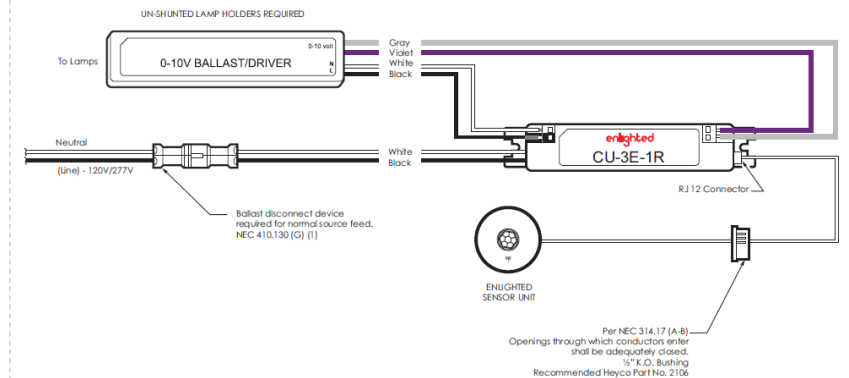

Figure 5
Step 2: Mount the Control Unit (CU) in a UL approved enclosure. Refer to the *Control Unit Installation Guide*. See Figure 5 for the wiring connections from the CU.